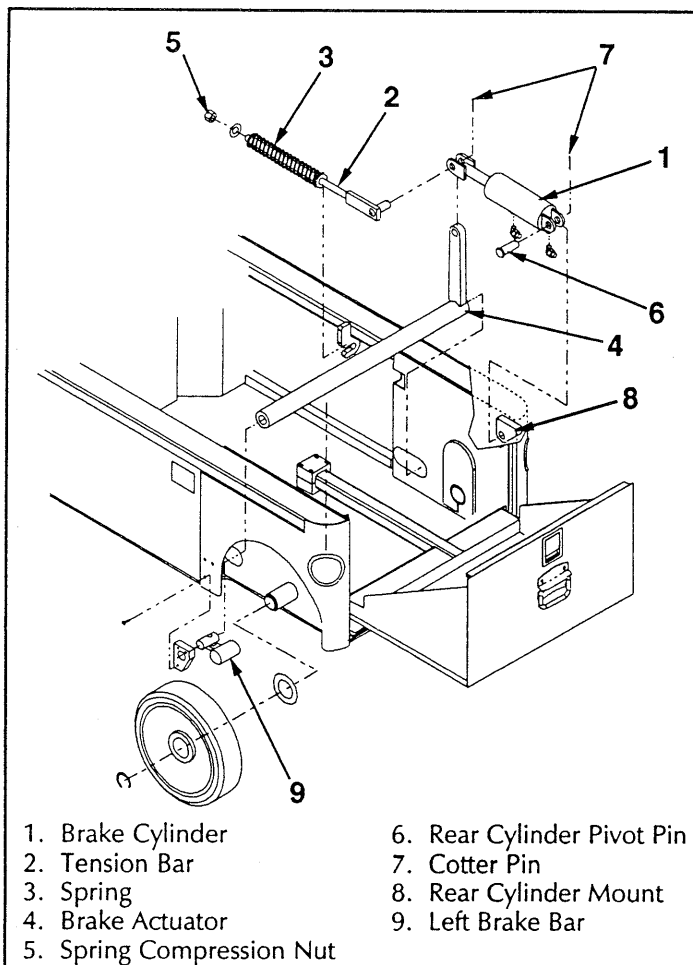

Figure 4-10: Brake Cylinder Installation
4.10 Brake Cylinder (Figure 4-10 & 11)